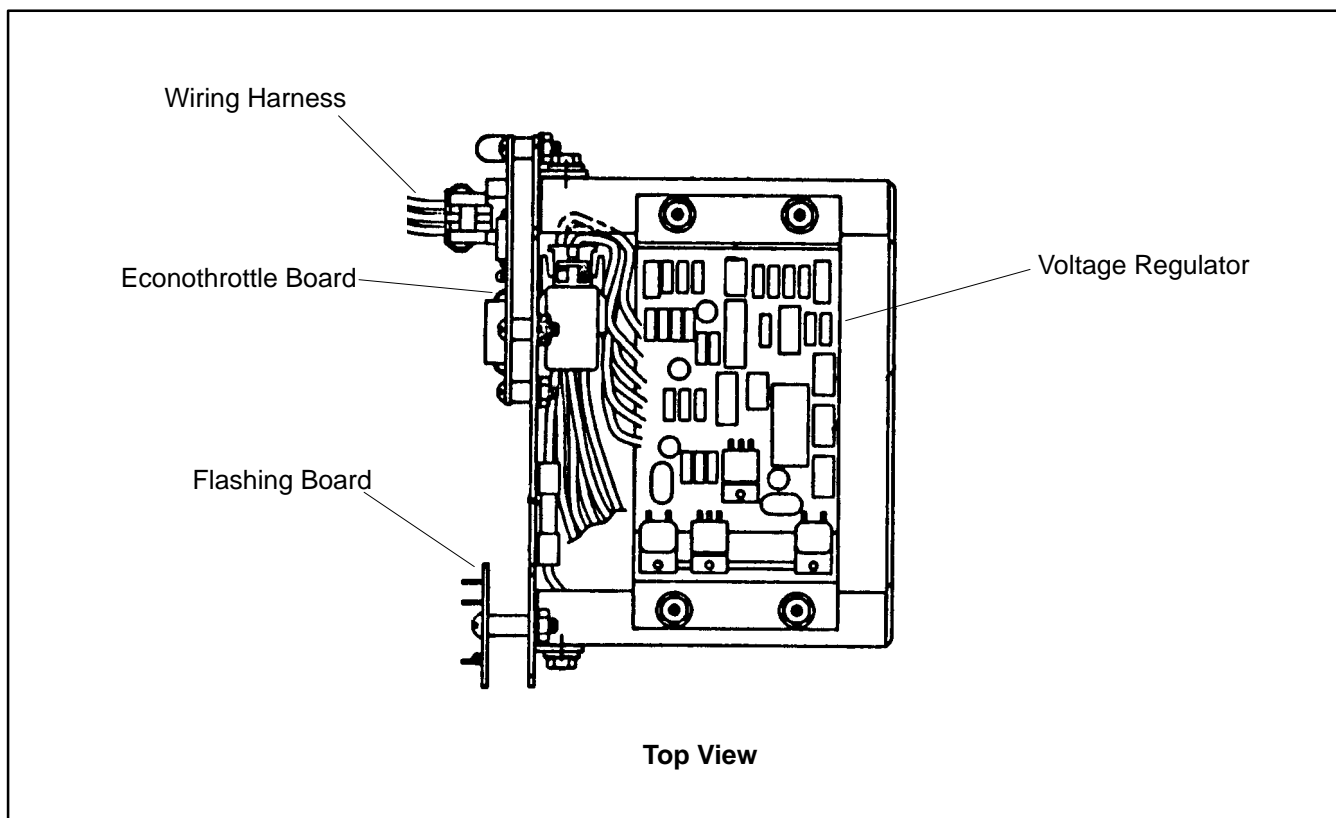

Figure 5. Voltage Regulator, Econothrottle Board, and Flashing Board.
13. Disconnect lead 66 from the flashing board. Connect tab adapter 287571 to terminal 66 on the flashing board. Then connect lead 6 of the wiring harness to the tab adapter, and connect lead 66 to the tab adapter. See Figure 5.
14. Mount econothrottle circuit board C-269195 to the voltage regulator bracket, as shown in Figure 5, using the X-49-36 screws, X-712-11 spacers, and X-101-22 nuts.